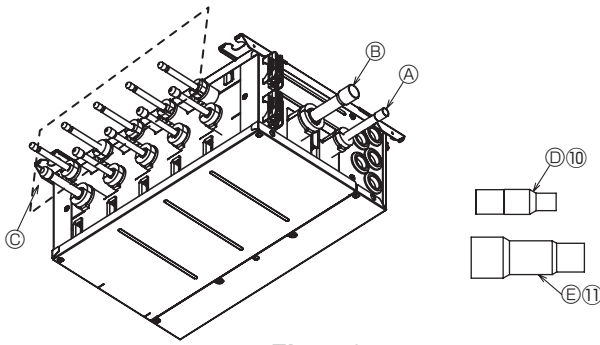
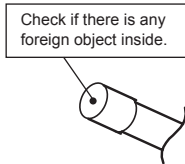

Fig. 7-3
Fig. 7-5
- (1) Remove the rubber caps from the outdoor unit side connection pipe (A) and (B).
- (2) After brazing (C) to the liquid pipe side and (C) to the gas pipe of the refrigerant pipe connected to the outdoor unit side, braze the branch box to connect. (Fig. 7-3, 7-4) When installing the unit on a wall, do not braze the joint pipe to the unit first. Doing so will make filling the gap with filler metal difficult, resulting in a refrigerant leak when brazing the refrigerant pipe.
- (3) When brazing in succession, conduct the next brazing once the welded section has cooled down to room temperature. Failure to do so will cause the insulation material or the unit to melt causing condensation. Remove the copper cap of (C), and braze the refrigerant piping connected to the indoor unit. (Fig. 7-3)
- (4) When the indoor unit is not connected, do not remove the copper cap of (C), or refrigerant leaks.
- (5) After cutting piping or unsoldering brazed piping or copper caps, ensure to clean away any foreign object (i.e., brazing material, cutting chips) so as to prevent entry of any foreign object into the piping. Failure to do so may cause malfunction of the outdoor compressor, and the like. (Fig. 7-5)
- Ⓓ Joint pipe. (Liquid) ⑩
- Ⓔ Joint pipe. (Gas) ⑪